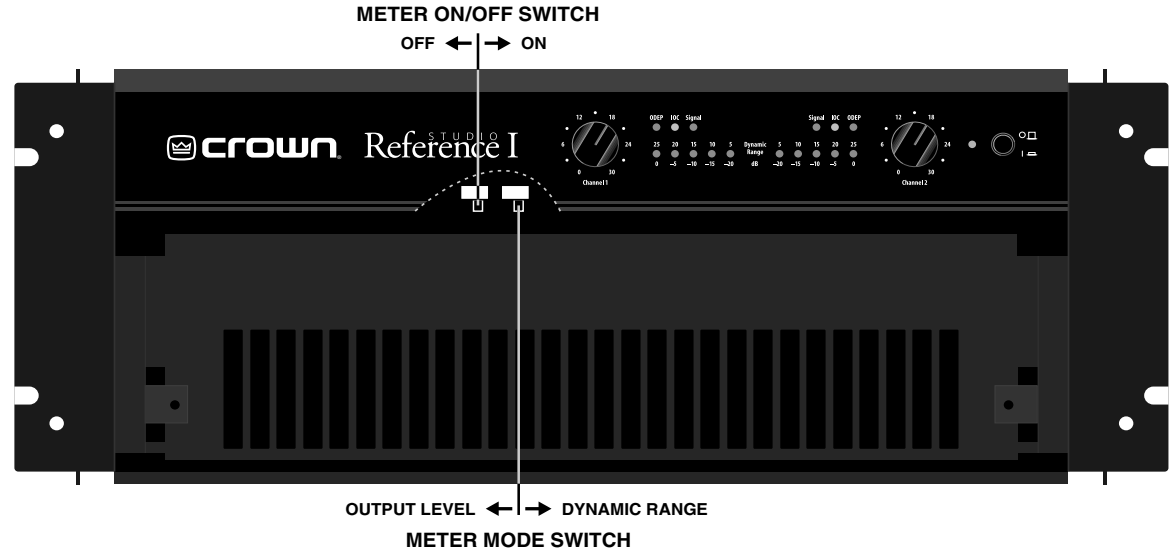

Figure 4.3 Meter Switches
6. Locate the meter switches as shown in Figure 4.3. Set the switches as desired. The left switch is used to turn the meters on and off, and the right switch is used to change display modes.